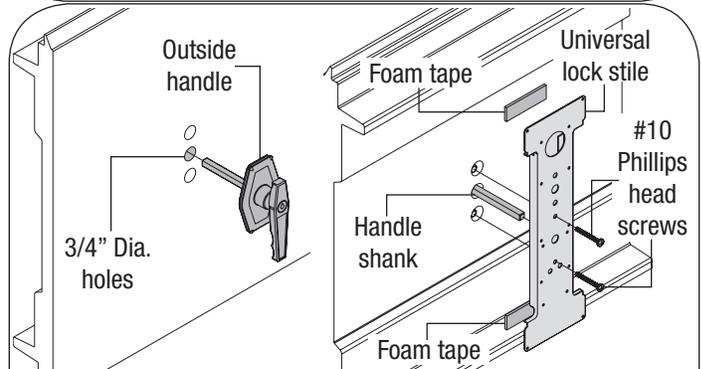
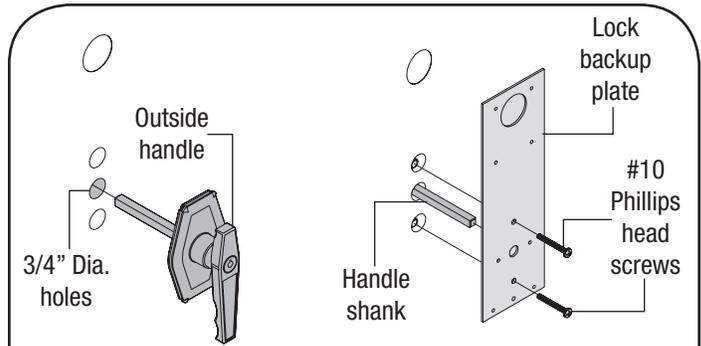

FIG. 5A
FIG. 5B
5120/5145/8300/8500/9700/9800/9100/9405/9600 & WOOD DOORS, (SEE FIG. 5A & FIG. 5B): Align the outside handle assembly with the handle pointing towards the floor and insert the assembly through the previously drilled 3/4" diameter holes in the section. With the outside lock placed in the section, place the center lock stile over the shank of the outside lock handle, secure the center lock stile with foam tape (8300/8500/8700/9700/9800 Series & Wood doors will use the lock backup plate with no foam tape). Secure the outside lock handle to the section by placing the (2) #10 phillips head machine screws through the lock stile into the lock section.